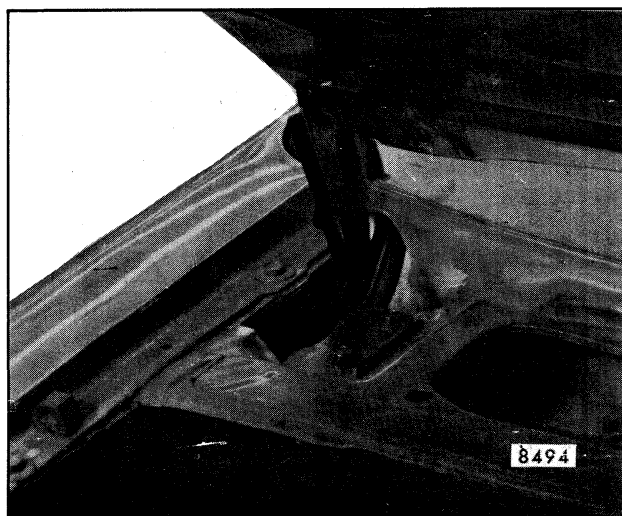

Fig. 4-18-Hood Hinge - "H-07,27"
The "H-07,27" style hood is hinged at the rear. The hood hinge is welded to the hood side and bolted to the body side (Fig. 4-18).
2. With aid of helper, remove two hinge to upper shroud attaching bolts (Fig. 4-18) and remove hood and hinge from body.